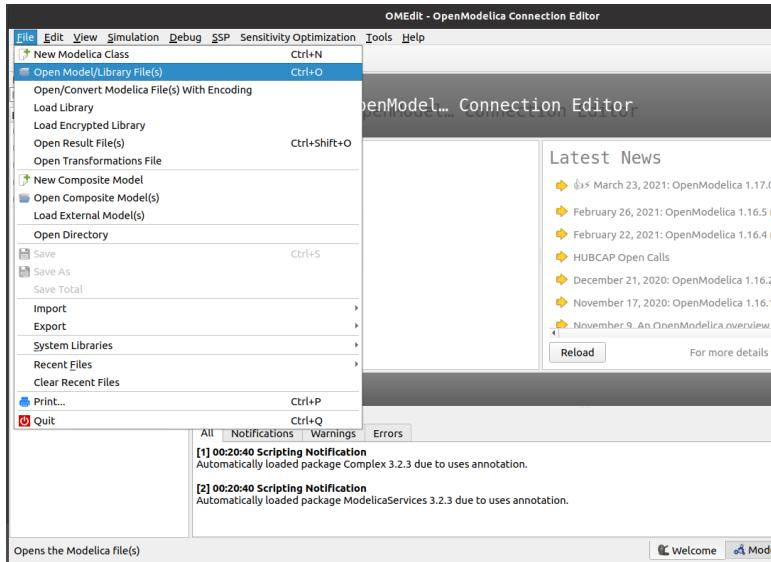

Figure 3.38: Opening a model in OMEdit
The files or models in OpenModelica have ‘.mo’ extensions. Though there are several ways to simulate or run an OpenModelica model, we will execute the models by utilizing the user interface of OMEdit. To open a model in OMEdit, go to the menu bar of OMEdit and click on File -> Open Model/Library File(s), as shown in Fig. 3.38. Then, select the
2. After launching, we have to load OpenModelica-Arduino toolbox. To do so, go to the menu bar of OMEdit. Click on File and then click on the Open Model/Library File(s) option as shown in Fig. 3.38.